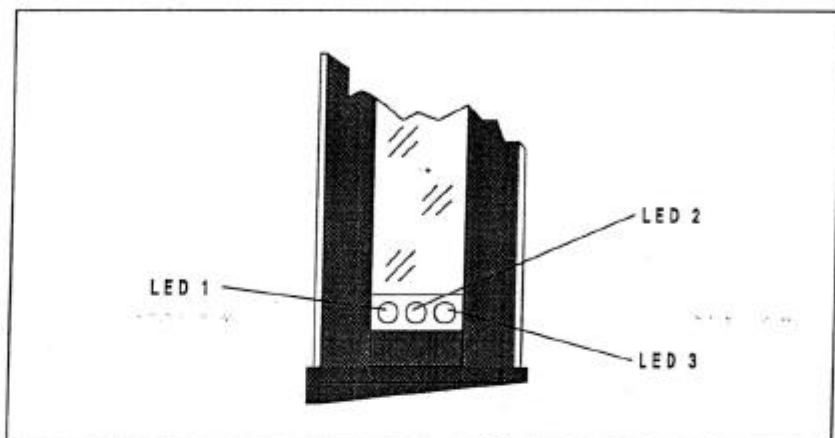

Figure 9-1 The display elements of the optical component
- 9.1 **Display Elements of the REFLEX Optical Component** At the optical component's display field three display elements (LEDs) are available for status indication (Figure 9-1).